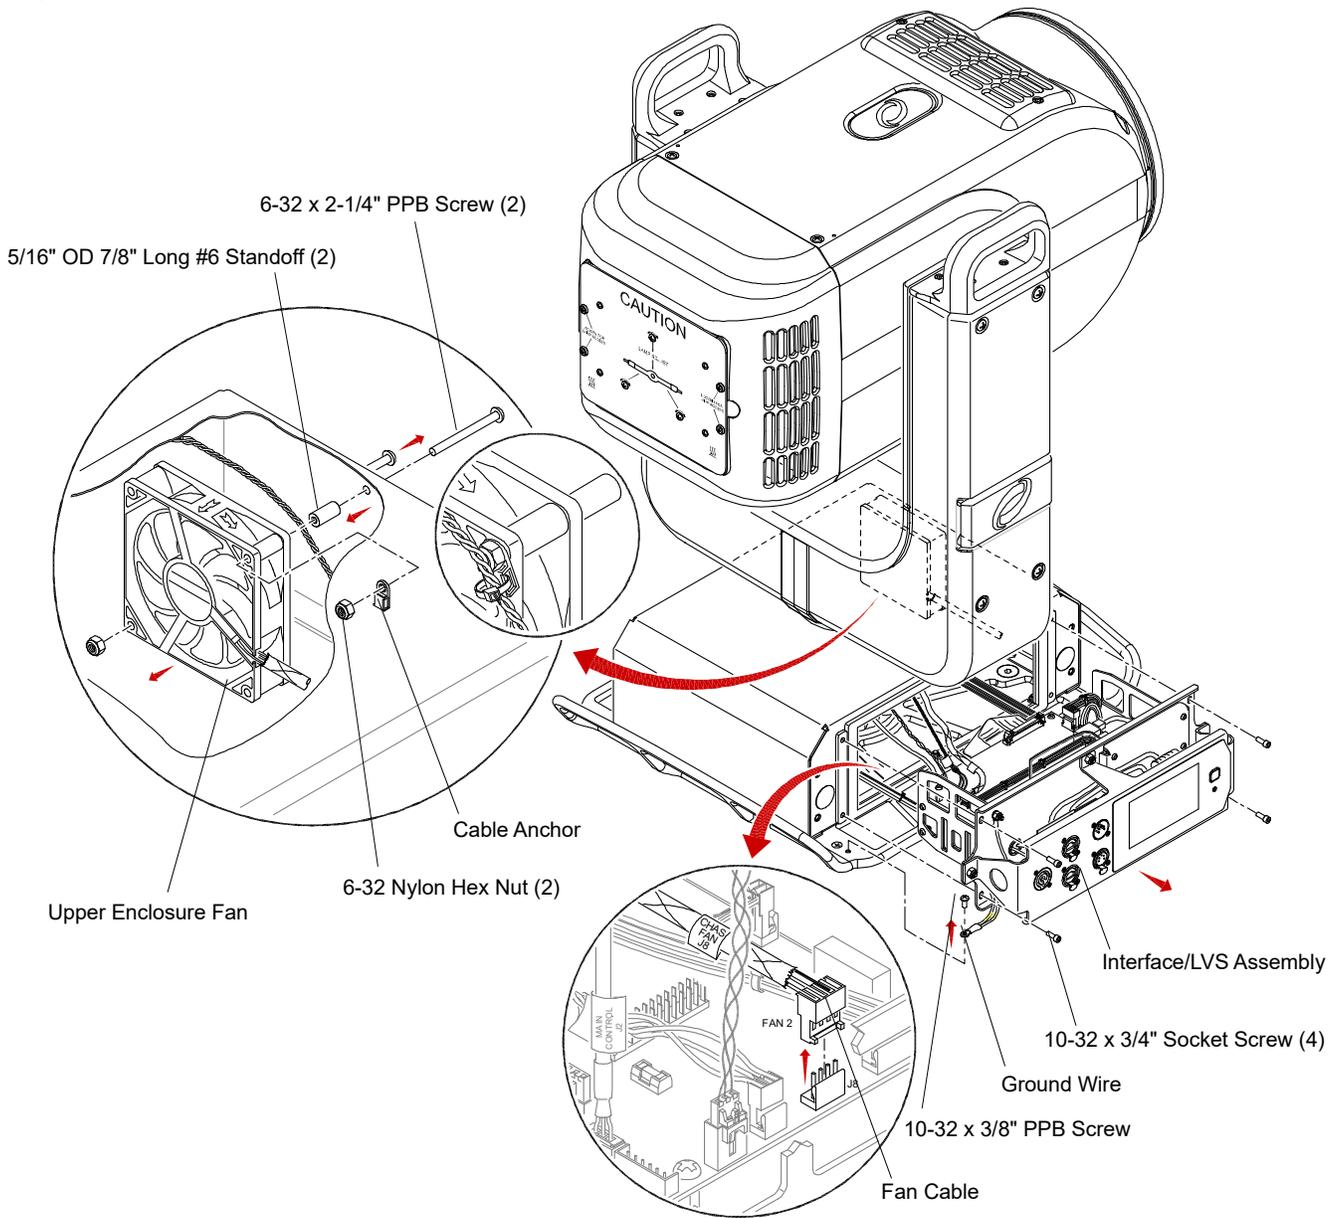

Figure 3-53: Removing Upper Enclosure Fan
- Step 3. At front of Interface/LVS Assembly, remove four 10-32 x 3/4" socket head screws (**Figure 3-53**).